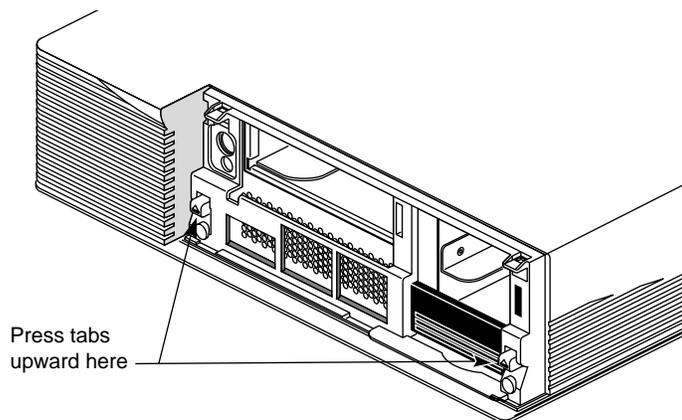

Figure 1-7 Pressing Up the Tabs
- Press up on the tabs on each side of the drive openings, as shown in Figure 1-7.